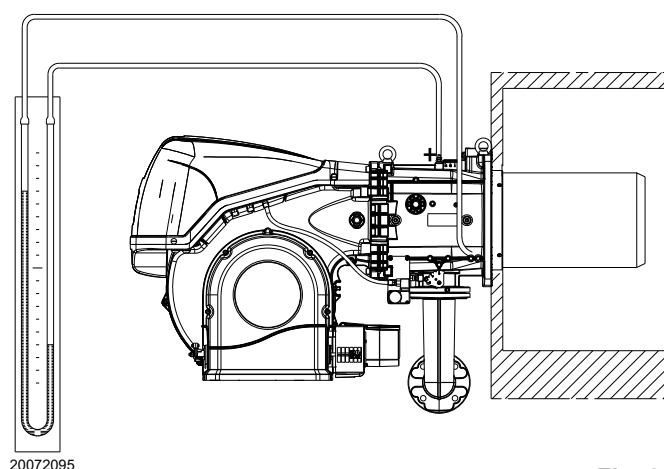

Fig. 29
- Fit a U-type pressure gauge or a differential pressure gauge (Fig. 29), with socket (+) on the gas pressure of the pipe coupling and (-) in the combustion chamber.